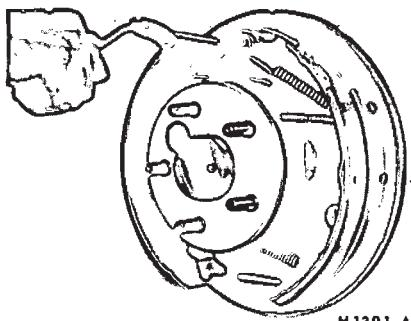

FIG. 8—Retracting Spring Installation
6. Install the primary shoe to anchor spring (Fig. 8).
8. Install the secondary shoe to anchor spring with the tool shown in Fig. 8.